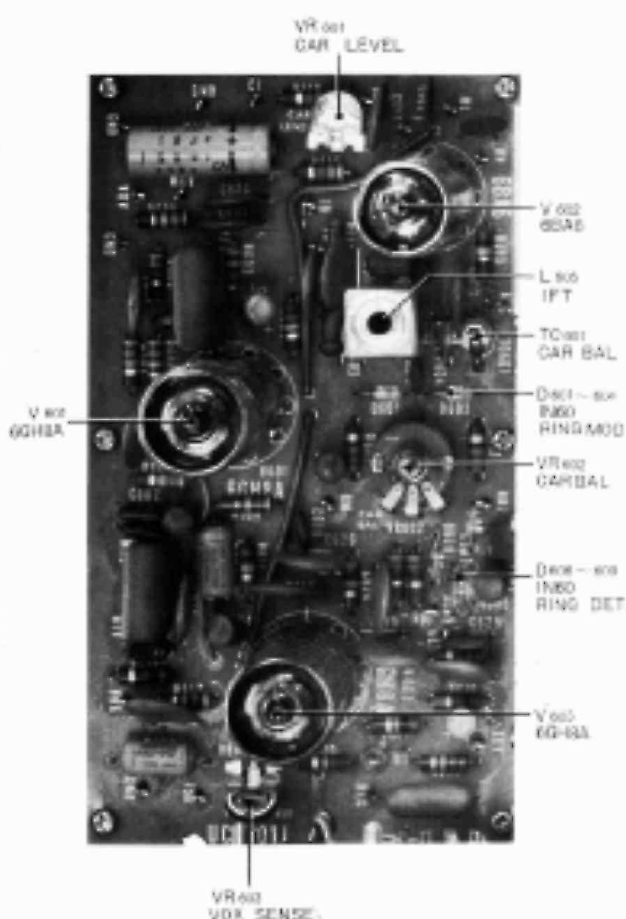

Fig. 24 BM Block
(1) Carrier balance and carrier level (UC1501J) Refer to Fig. 24.